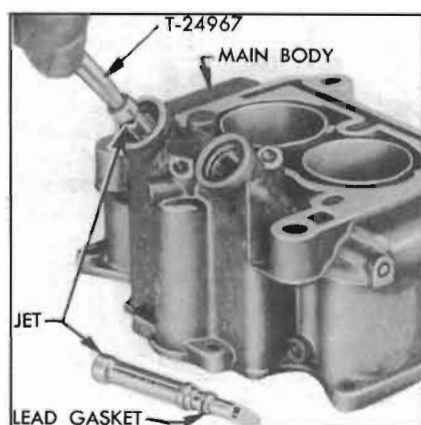

Figure 3-73—Removing Main Discharge Jet
14. Remove main discharge jets by screwing Jet Remover T-24967 (R.H. thread) into base of jet, then pulling jets from main body. See figure 3-73. The threads formed in the main discharge jet by the tool will not affect the metering characteristics of the jet. **NOTE:** *Make sure that main discharge jet lead gaskets are removed from main body.*